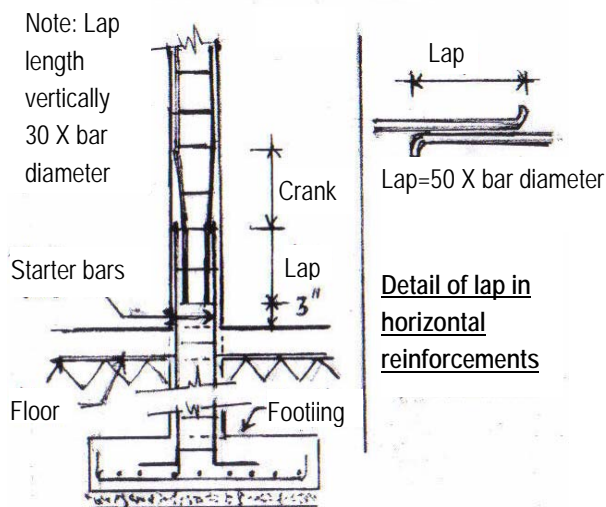

Fig 10 - **Detail of lap & crank in vertical reinforcements**
- Ensured that bars that lap are cranked (bent to accommodate the overlapping bar) properly (See fig. 10)